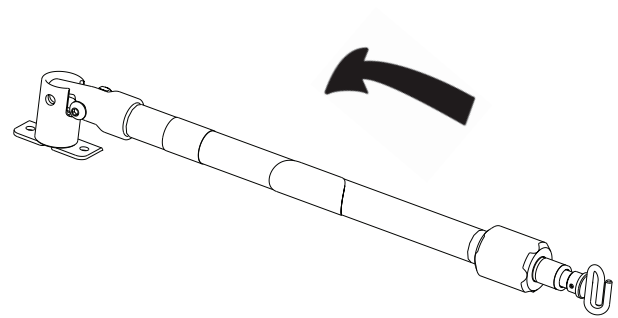

Figure 36 – IV pole storage position
1. Lift and pivot the IV pole from the storage position and push down until the IV pole locks into the receptacle (A).
2. To raise the height of the pole, turn the locking collar (B) counterclockwise and pull up on the telescoping portion (C) of the pole to raise it to the desired height.
3. Turn the locking collar (B) clockwise to lock the telescoping portion in place.
4. Hang the IV bags on the IV hook (D).
5. Turn the locking collars (B) counterclockwise and slide section (C) into the bottom tube.
6. Turn the locking collars (B) clockwise to tighten.
7. Lift up and pivot the pole down into the storage position (Figure 36).